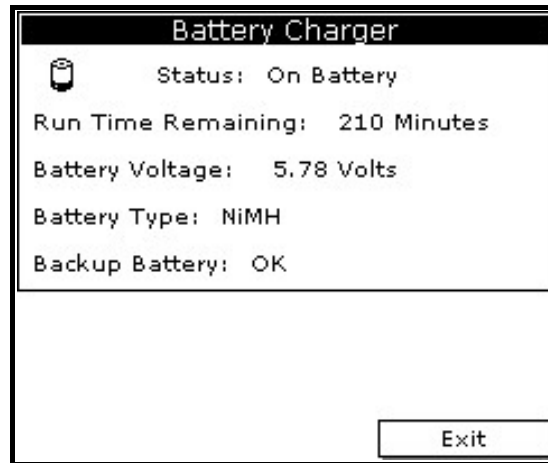

Figure 62: Battery Charger Window
3. Use the arrow key to scroll to Battery and press **[ENTER]**. A screen similar to Figure 62 appears.